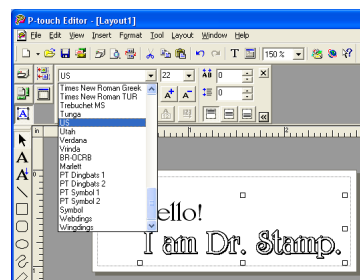

figure 7
- 3 From the “Font” drop-down list, select the desired font (see figure 7).